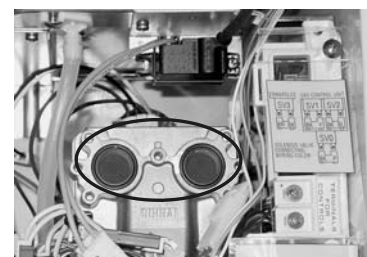

Figure 9
28. Make sure that the two black packings (Figure 9) are intact on the gas control assembly. Make sure that the ribbed side faces toward the manifold and that the flat side faces toward the gas valve. Attach the gas manifold with 3 machine screws at the gas control assembly. Replace the lower and upper packings (included in kit) for the manifold plate removing any residue.